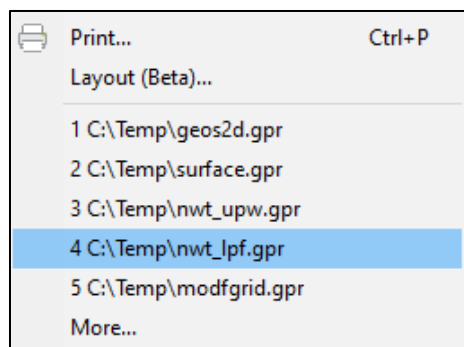

Figure 4 Reopen the nwt\_lpf.gpr model
3. Select the directory that ends in “nwt\_lpf.gpr” from the list of recent files at the bottom of the *File* menu.) (Figure 4).